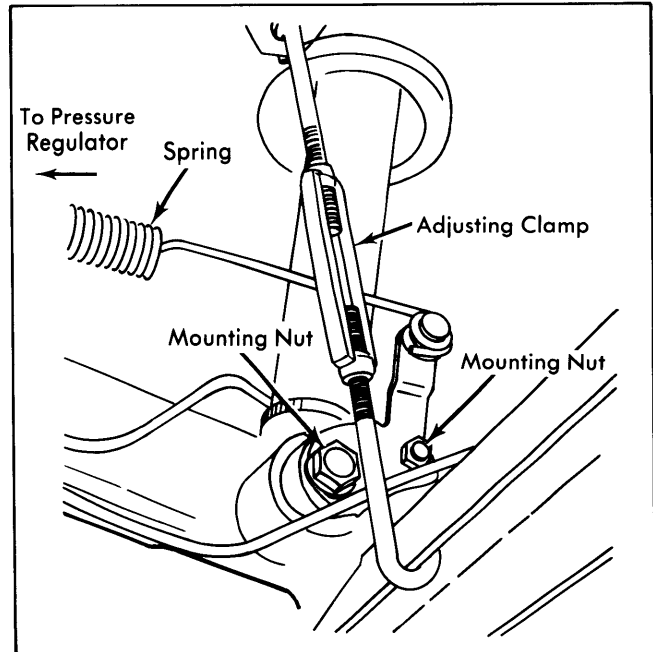

Fig. 1 Brake Pressure Regulator Adjustment Points
2) Raise vehicle on a hoist and make measurement again. If there is a difference in measurements, adjust by turning clamps. See Fig. 1.